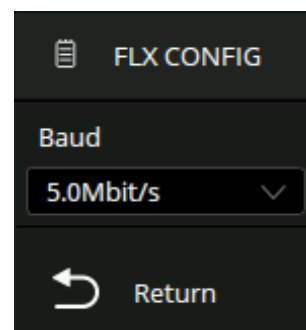

Figure 10.28 FlexRay
1. The **FLX CONFIG** menu will be displayed. (Figure 10.28)